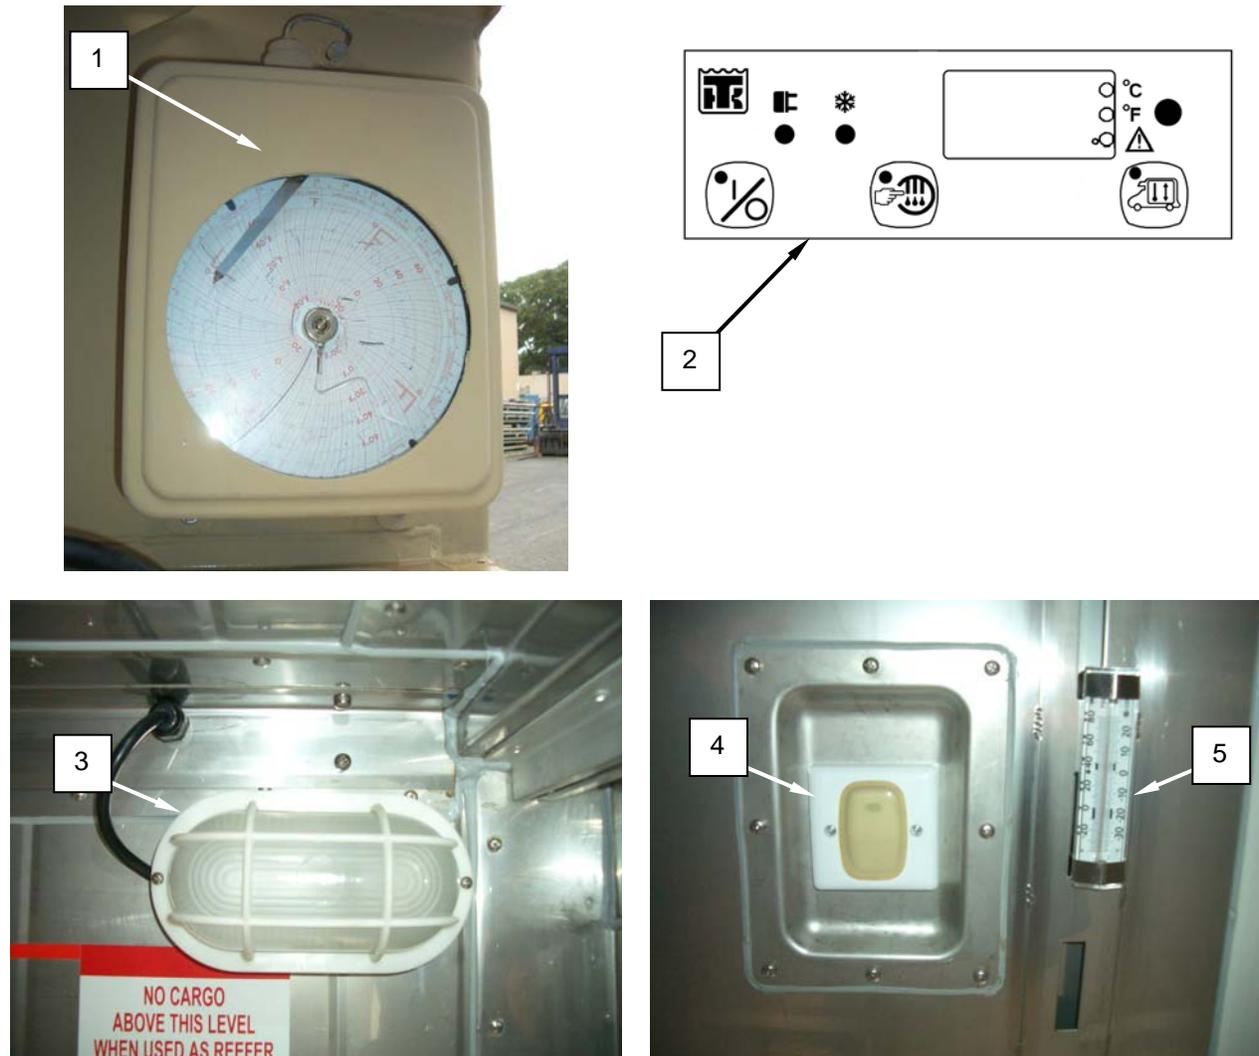

Figure 2-5. Operating Controls and Indicators.
- a. Details for operating controls and indicators of the Small Field Refrigeration System and associated components are given in Table 2-1 and shown in Figure 2-5.